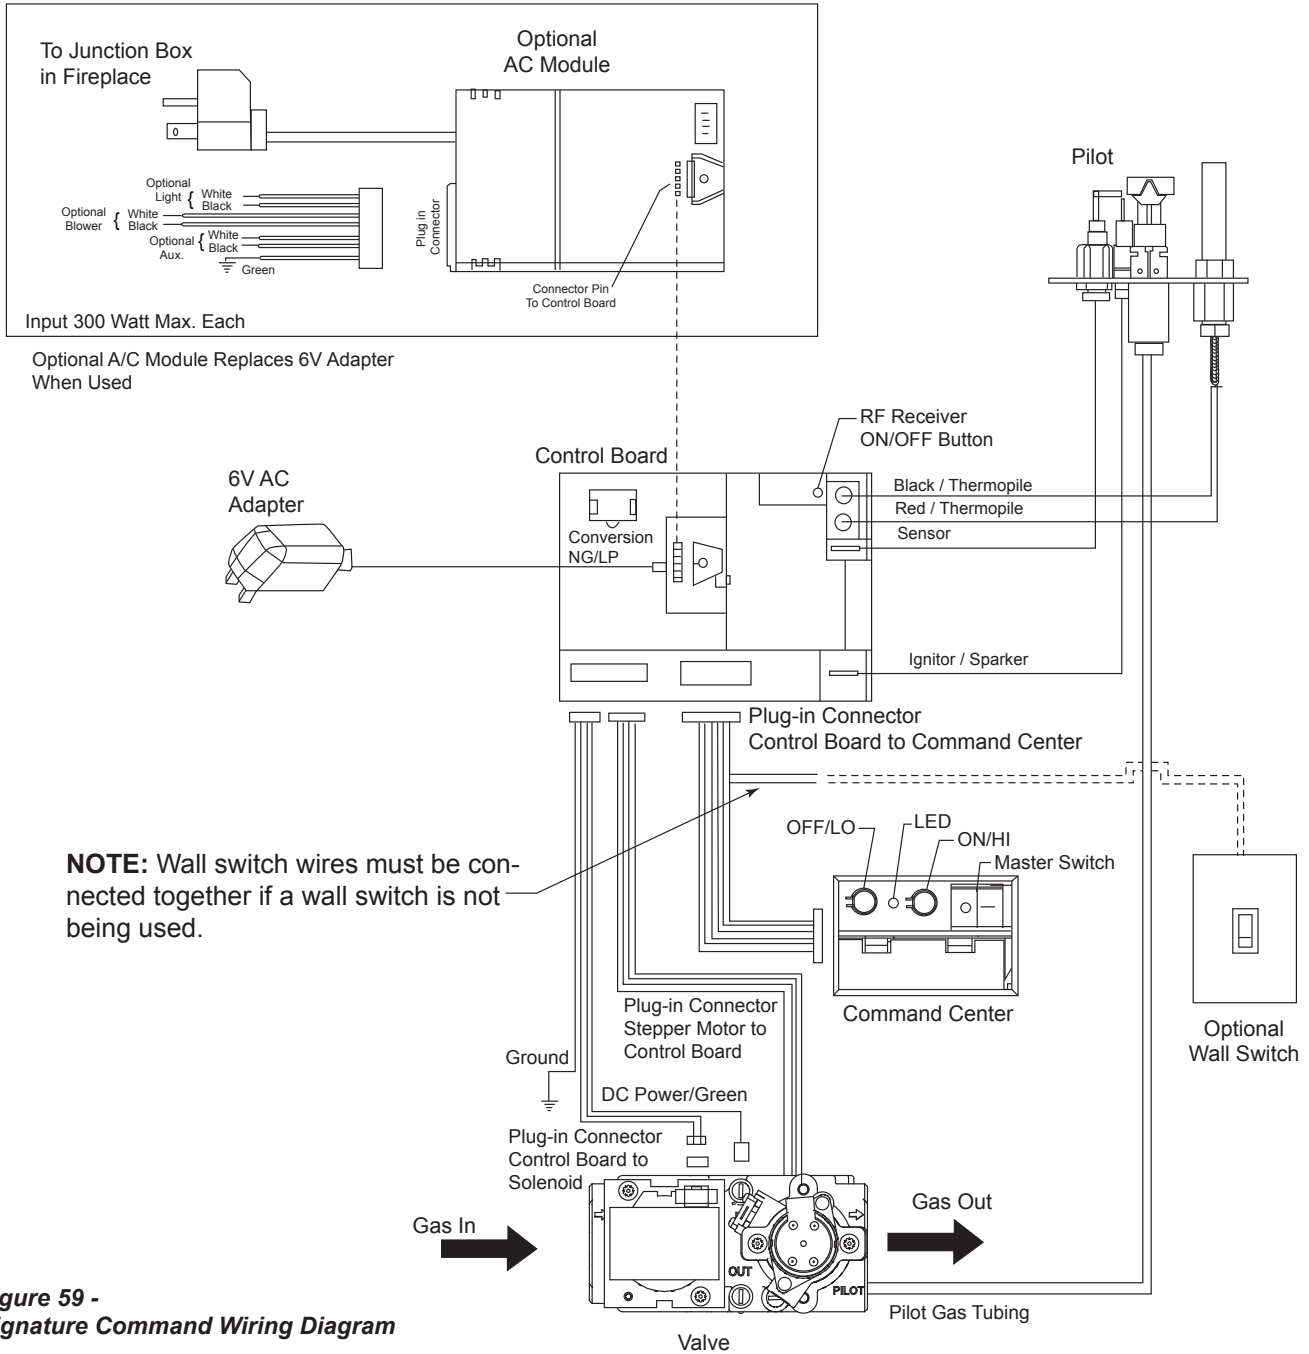

Figure 59 - Signature Command Wiring Diagram
The wall switch wire connection is located off the 2 ft. wire harness from the control box to the command center. *Figure 59*. The connection is labeled "Wall Switch". Unplug the male and female connectors and connect the two (2) low voltage wires provided. Run wire to desired location on wall. Up to 50 ft. of 18 ga. wire may be used if necessary. Attach wires to wall switch. Mount the wall switch in to junction box and screw on cover.